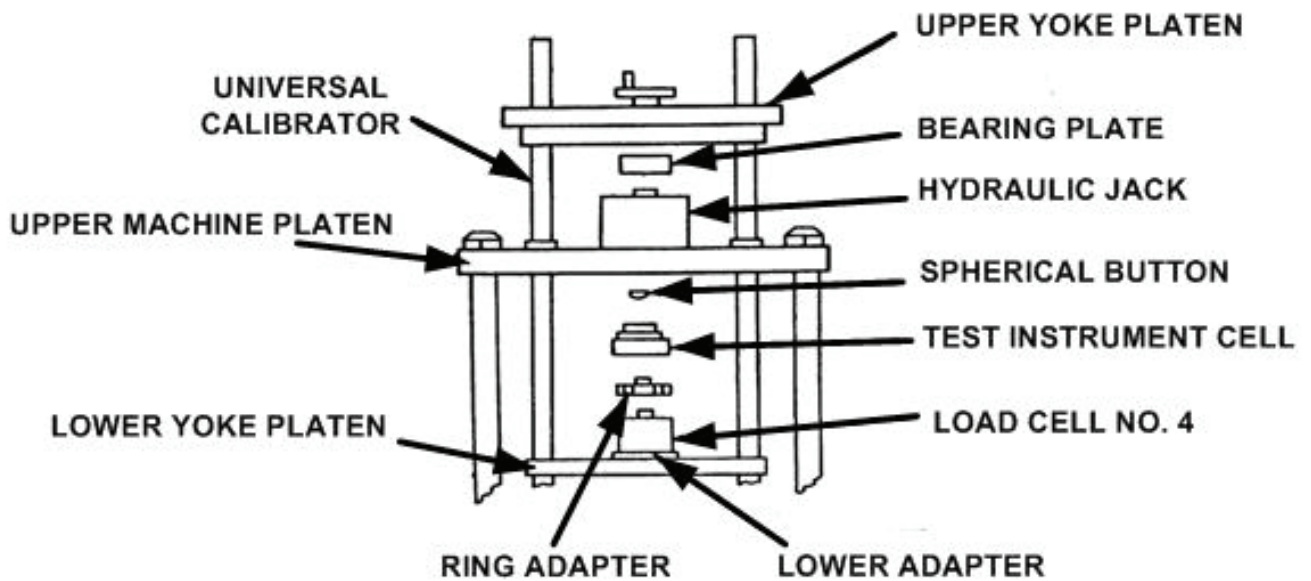

Figure 5. System equipment setup - alternate technique (reference).
(1) Set voltage selector switch on TI to position which corresponds to power source being used. Connect TI to power source.
(2) If ac is used, check voltage as follows:
- (3) If 24 V dc is used as power source, operate **BATTERY VOLTAGE** switch and check polarity. If meter indication is in yellow area, change leads and operate **BATTERY VOLTAGE** switch again. If meter indication is in red area, battery voltage is either too high or too low and should be replaced.
- (4) Allow sufficient time for equipment to warm-up and stabilize.
- (5) Set up equipment as shown in figure 5. Use load cell No. 4 with compatible spherical button and TI cell No. 1 (red).
- (6) Bolt **LOWER ADAPTER** (fig. 5) to bottom of load cell No. 4. Mount on **LOWER YOKE PLATEN** (fig. 5).
(16) Make sure that lower adapter (fig. 5) is tightly attached to load cell No. 4 after pressure is released.
(17) Set **TI INITIAL LOAD** switch to **10** and **WEIGHT** dial to 5000 pounds.
(18) Apply load for null condition as indicated on TI balance meter. If indication on load cell is not between 14,962.5 and 15,037.5 pounds, perform **b** below.